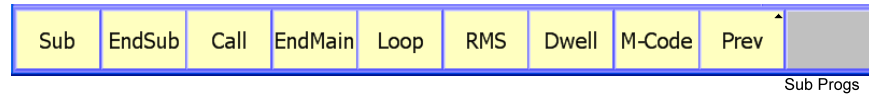

Figure 4-26, Sub Progs (F8) Soft Keys
1. In Edit Mode, press **Sub Progs (F8)** to display the Subprogram soft key labels. Refer to **Figure 4-26**.
1. In Edit Mode, press **Sub Progs (F8)** to display the Soft Key subprogram labels. Refer to **Figure 4-26**.
1. In Edit Mode, press **Sub Progs (F8)** to display the Sub Prog soft keys. Refer to **Figure 4-26**.
1. In Edit Mode, press **Sub Progs (F8)** to display the **Sub** soft keys. Refer to **Figure 4-26**.
1. In Edit Mode, press **Sub Progs (F8)** to display the **Sub** soft keys. Refer to **Figure 4-26, Sub Progs (F8) Soft Keys**.
1. In Edit Mode, press **Sub Progs (F8)**. Soft Key labels display subprogram functions. Refer to **Figure 4-26, Sub Progs (F8) Soft Keys**.